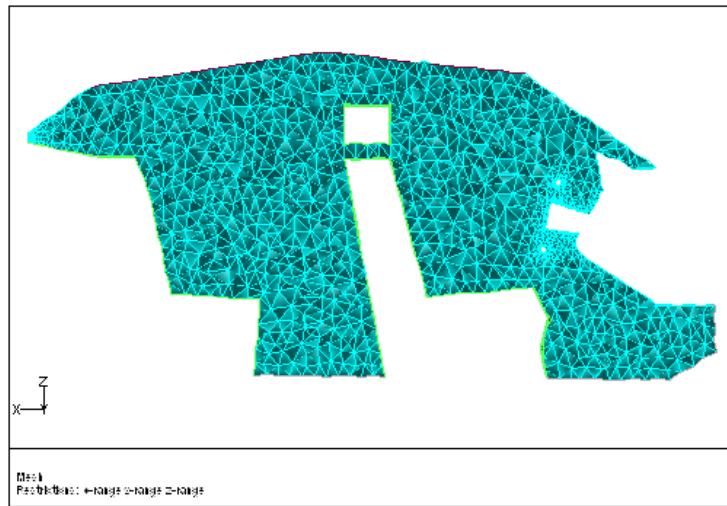

Figure 5.5: Slide of Cells at  $y = -525$  for the Tetrahedral Mesh
- (g) Similarly, display the cells for a value of  $y = -525$  (Figure 5.5).